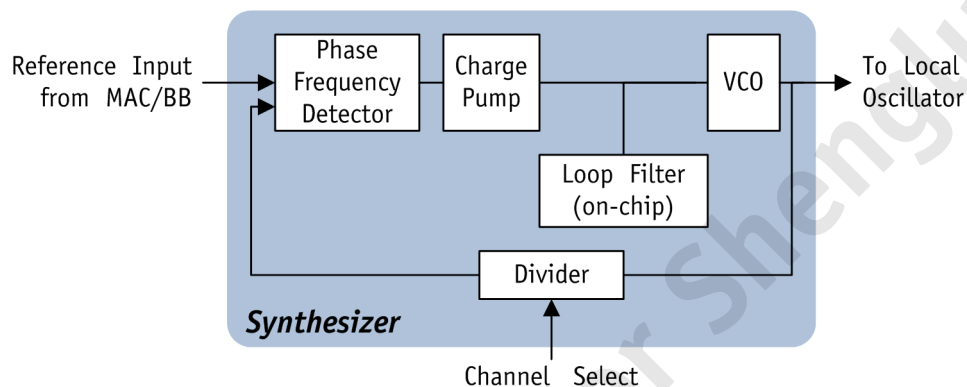

Figure 7-4. Radio Synthesizer Block Diagram
The radio supports an on-chip synthesizer to generate local oscillator (LO) frequencies for the receiver and transmitter mixers. The synthesizer has the topology shown in Figure 7-4. The AR9341 generates the reference input from a 40 MHz crystal for the synthesizer. An on-chip voltage controlled oscillator (VCO) provides the desired LO signal based on a phase locked loop.